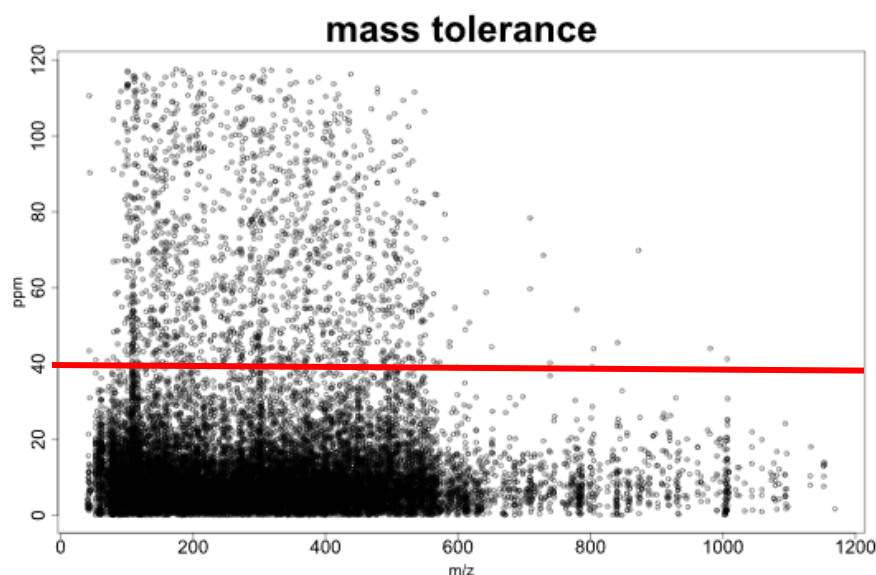

Figure 4. The mass accuracy distribution generated by Paramounter part 1.
- 5) Run Paramounter part 1 by clicking “Source” in the top right corner of the document window in RStudio. Paramounter part 1 generates a plot showing the distribution of mass accuracy in the dimension of m/z . Users can manually pick the ppm cutoff within which the majority of the data points are clustered (**red dashed line** in **Figure 4**).